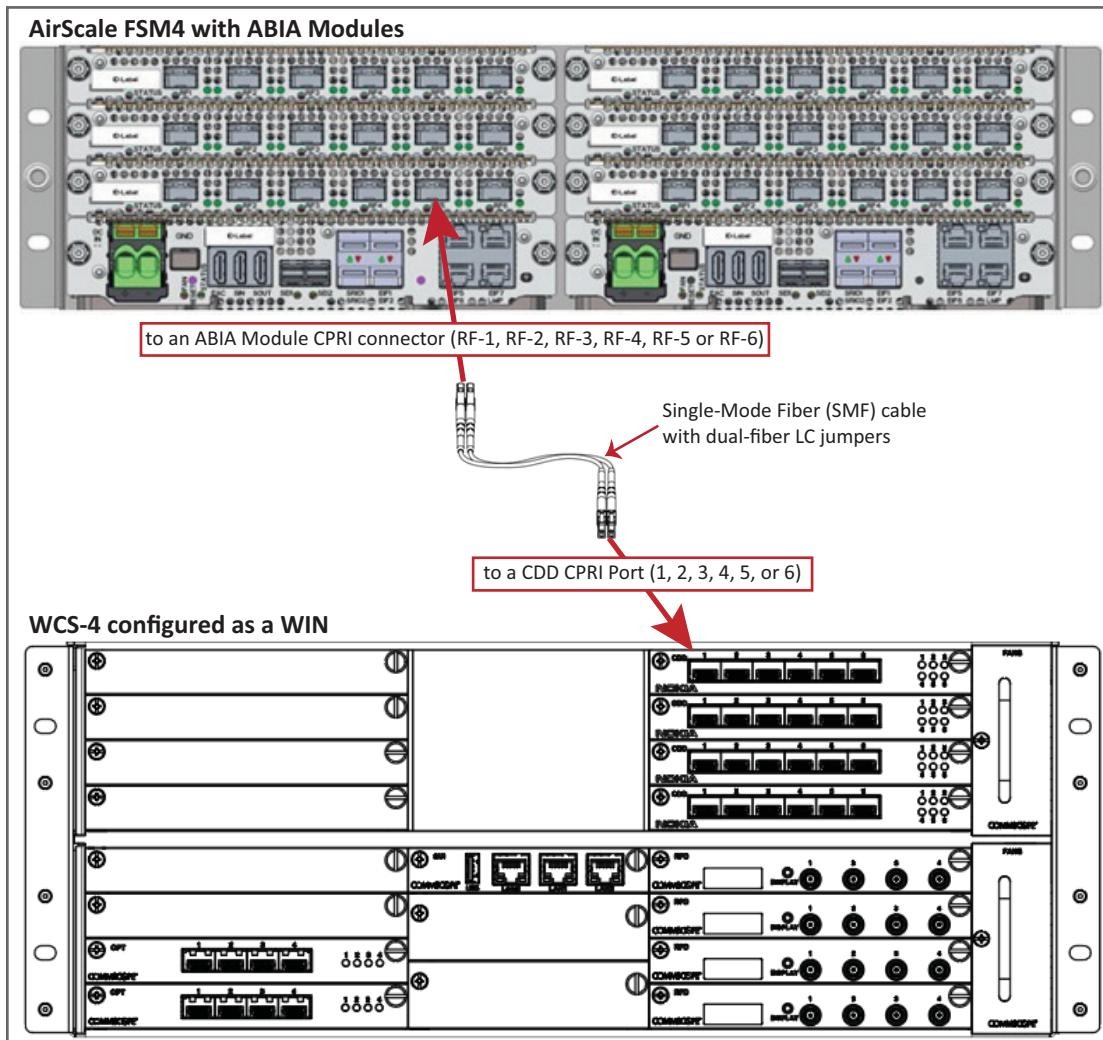

Figure 15. CDD Card in a WIN Connecting to a BBU
- For WIN installations, see Figure 15 on page 76.